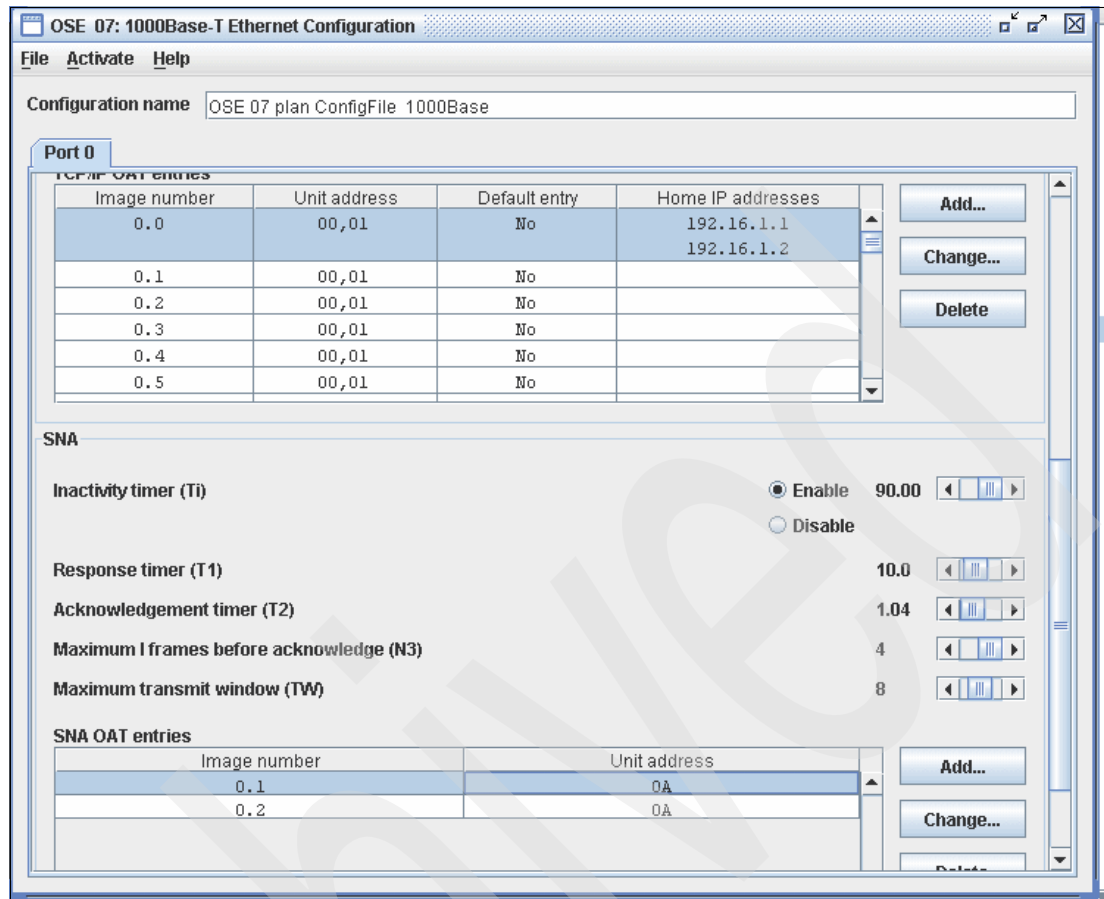

Figure 3-25 OSA/SF Workstation Interface - Change Configuration
- From the list, select the saved configuration name and click **Load**. Configuration information previously saved is now displayed on the OSA configuration panel. Any changes that may be needed can be done for this configuration with OSA/SF as shown in Figure 3-25.